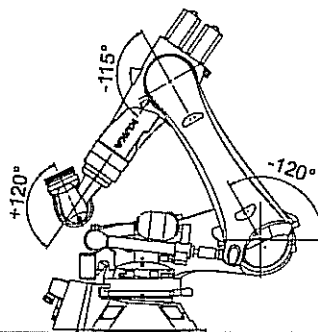

Fig. 13-1: Transport position
3. Put the robot into operation and move it into the transport position (>>> Fig. 13-1).